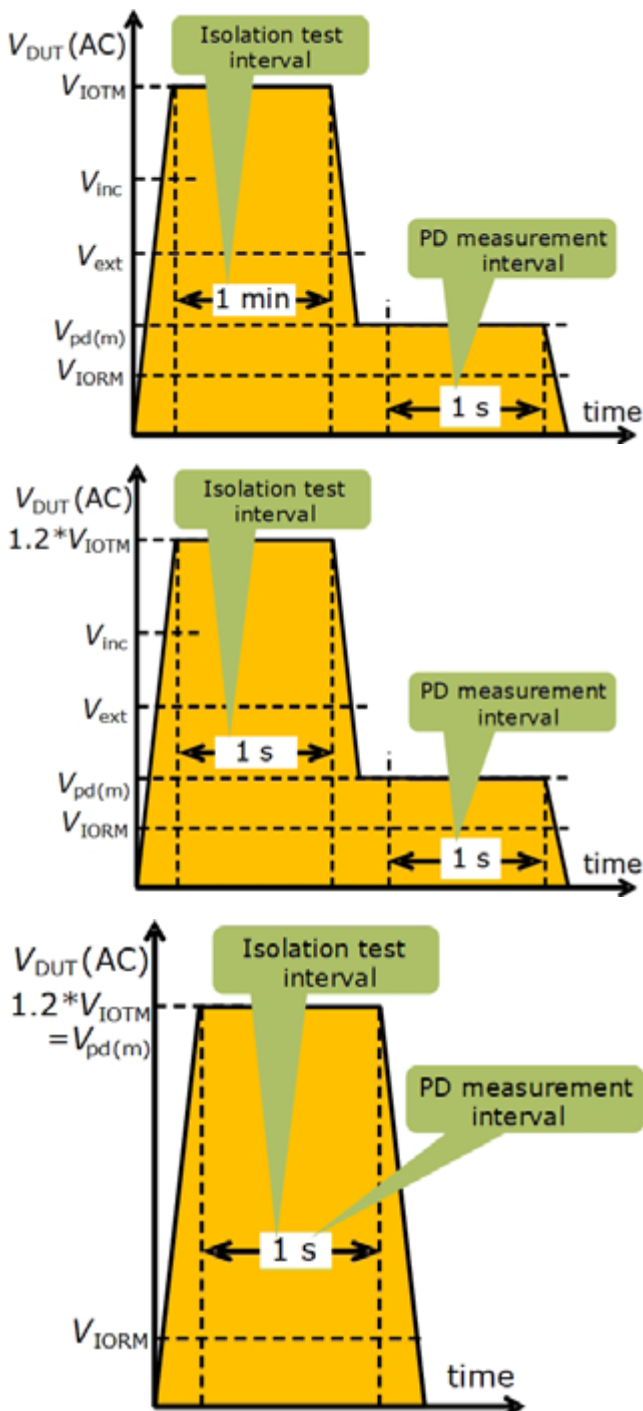
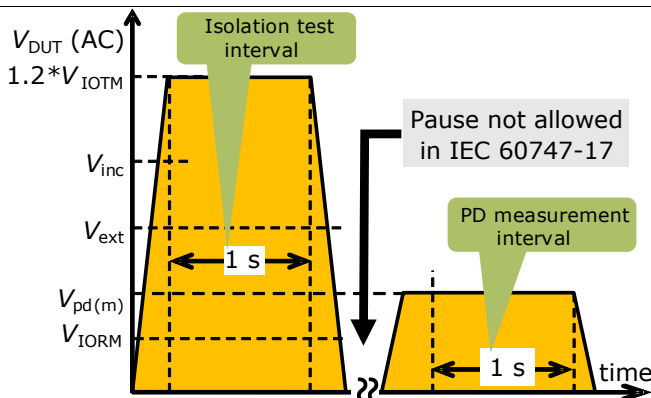

Figure 2: Principle of the combined isolation and partial discharge test:
Figure 3: Not allowed PD test method in IEC 60747-17
partial discharge (PD) in the production of the couplers. Each coupler undergoes PD testing, which screens potential weak parts. It is now mandatory to combine the isolation test and the PD test in a single test procedure as depicted in Figure 2. The isolation type test first applies the rated isolation voltage to the device under test (DUT) for 1 minute.
Infineon has installed method b1 of figure 2 for routine tests in production for certified EiceDRIVER™ products. The above mentioned test methods are superior to the method shown in figure 3, which is often used for photocouplers [4], [5]. That particular method allows an undefined time between the isolation test and the PD test. The forced partial discharge event is "extinct", of course, when the stress voltage goes down to zero. In addition, potential free charges can recombine in the insulation, so that almost every DUT can pass the PD test [4], [5].